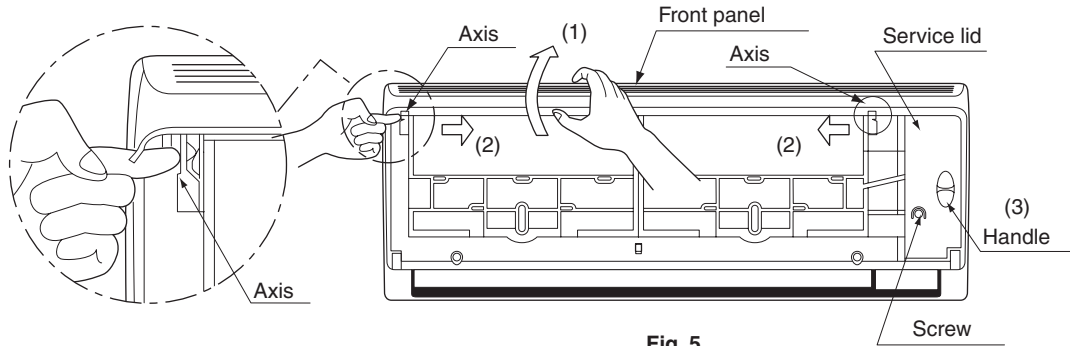

Fig. 5
(5) Remove the front panel and the service lid using the following steps and referring to Figure 5: